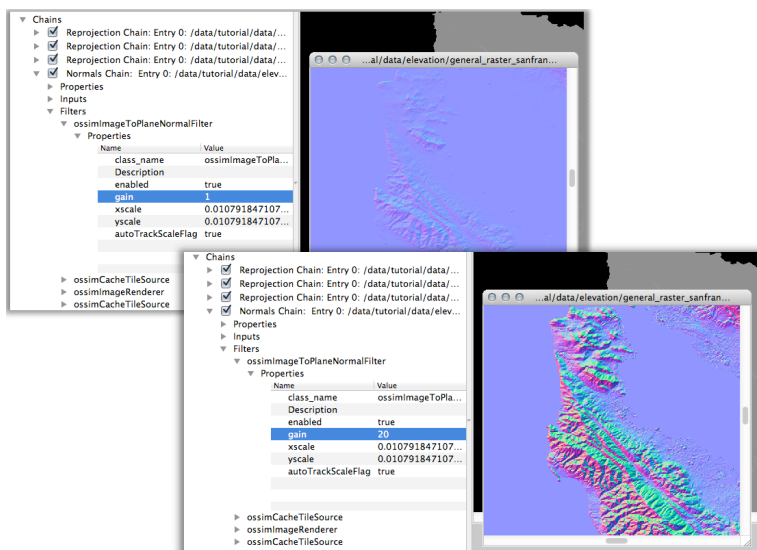

Figure 7. ossimImageToPlaneNormalFilter Properties
- b. Expansion of the entry allows manipulation of its filter properties; for example, the gain of the **ossimImagePlaneNormalFilter** has been changed in Figure 7